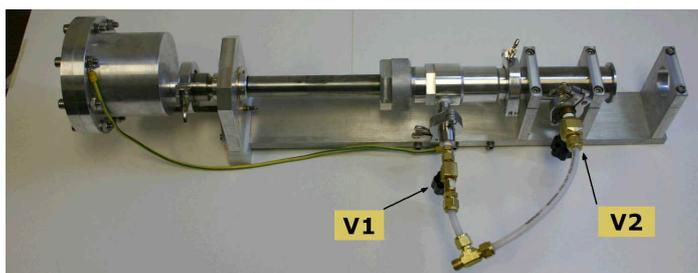

Fig.2
6. close also the two valves of the roughing system, V1 and V2 (see Fig.2); pressure should not change (note for SXR2: V2 is the valve attached to the rear part);